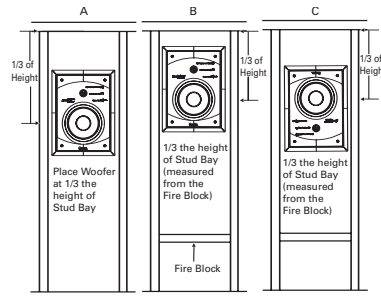

Figure 10: Ideal Height of Woofer
- The ideal location for the woofer (whether the speaker is mounted upright or inverted) is at the one-third distance point, as shown in example A of Figure 10. If that is not feasible, then two-fifths, or one-fifth of the height are the next best alternatives. The least desirable position to place the woofer is at one-half or one-fourth of the height. If a fire block is completely dividing the bay, the measurement would be from the fire block – not the floor or ceiling – as shown in example B of Figure 10. Example C shows an inverted speaker placement.